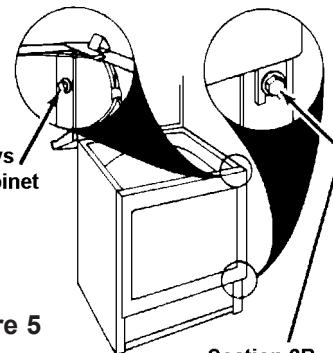

Figure 5
- 2-2. Remove two (2) screws from inside cabinet that holds the top of the front panel. See Figure 5.
- 2-3. Loosen the two (2) screws at bottom of front panel. See Figure 5.
- 2-4. Remove two (2) screws from inside cabinet that hold the top of the front panel. See Figure 5.
- 2-4. Loosen the two (2) screws from inside cabinet that hold the top of the front panel. See Figure 5.